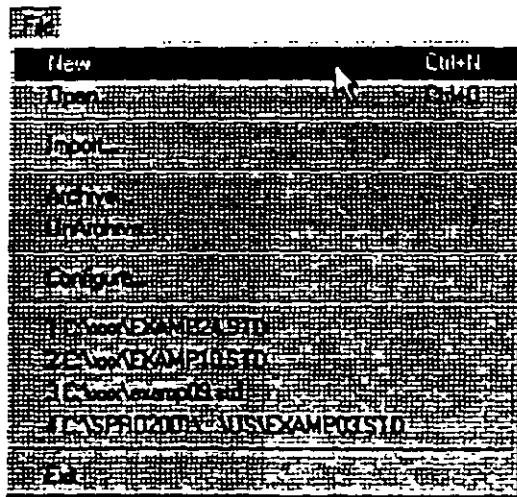

Figure 2.4
3. To create a new structure, click on the *File / New* option in the STAAD.Pro screen that opens (as shown in Figure 2.4).